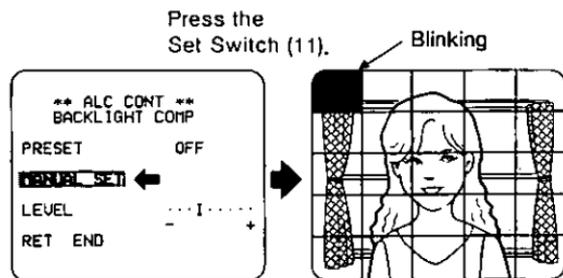

Fig. 54
- Move the cursor to the "MANUAL SET" mode position and press the Set Switch (11). The 25 Mask Areas appears on the monitor screen as shown in Fig. 54. The left top area starts blinking as a cursor.